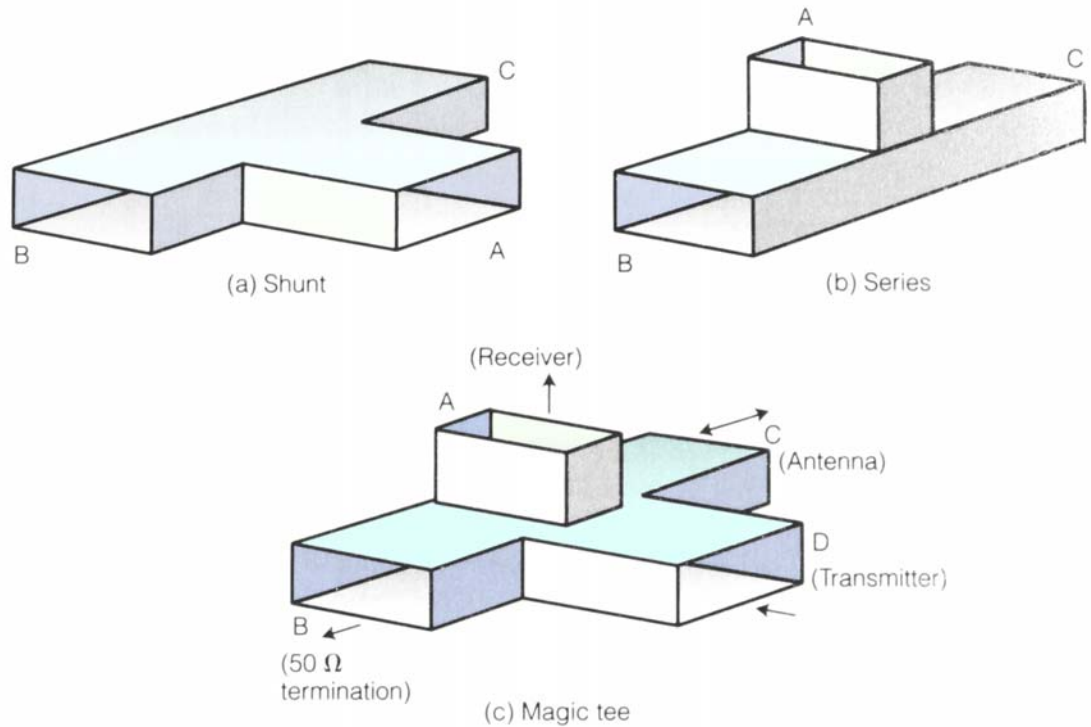

Figure 13-11: Three Tees
Tees are often used to act as power combiners, power splitters, and isolators. A *power combiner* adds the RF power from two sources (which must supply in-phase energy). The *shunt tee* of Figure 13-11(a) can be used as a power combiner.
If RF energy is applied to port A in Figure 13-11(a), ports B and C will each have an in-phase of the input signal. The power is equally divided among ports B and C. Likewise, if two RF power sources are connected to B and C, the total power output at A will be the sum of the individual input powers. Notice that since there is no disturbance in the electric field orientation, there is no phase shift produced in the shunt tee.
The *series tee* of Figure 13-11(b) operates in a similar manner. If a signal is inserted into port A, it travels downward into the body of the tee. As it arrives at the junction of the body and stub, the electric (E) field must bend around the corner. Electrically, the body appears to be in *series* with the electric field lines in the stub, so each half of the body of the device must have *opposite* polarization. In other words, the series tee acts as a phase-splitter transformer; if a signal is applied at A, signals are produced at B and C that are 180 degrees out of phase. The power of the signals at B and C are still half that of the inserted power, just like that of the shunt tee. Because of the 180 degree phase shift, the series tee is useful for creating transmission line impedance-matching networks at microwave frequencies; a sliding short (piston) is often connected at port C in such an application.
The *magic tee* of Figure 13-11(c) combines the characteristics of both the series and shunt tees. It is often used as a transmit-receive switch in non-critical applications. For example, if a transmitter's output is coupled into port D, the transmitter's energy will be divided equally among ports B and C. Very little of the transmitter's energy will leave port A, because the polarization of stub A does not agree with the fundamental mode (TE₁₀) of the propagation in the body of the device. The sensitive receiver is therefore protected from the high power of the transmitter.